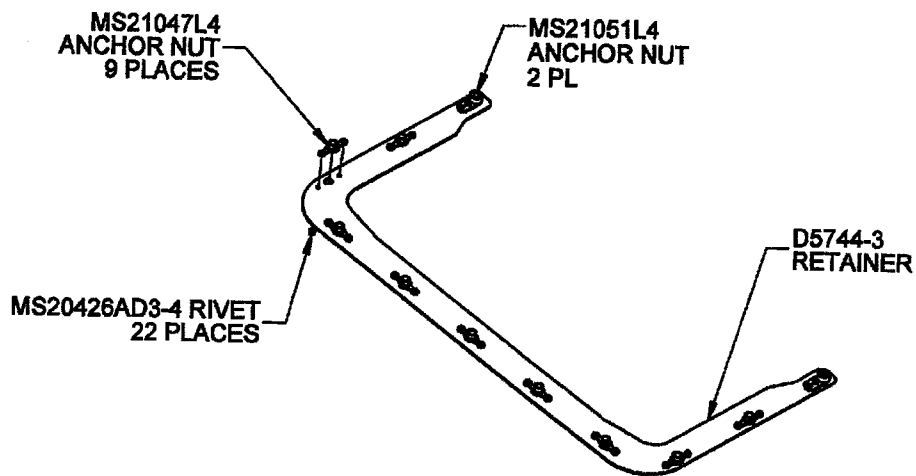

FIGURE 4 - D5744-3 RETAINER PREPARATION
12. Install 9 x MS21047L4 anchor nuts and 2 x MS21051L4 anchor nuts onto D5744-3 Retainer as shown in Figure 4. Deburr all holes and remove any debris from the work surface. Touch up the affected area using chemical film (Alodine 1200 or 1201) per MIL-DTL-5541 prior to installing the anchor nuts.